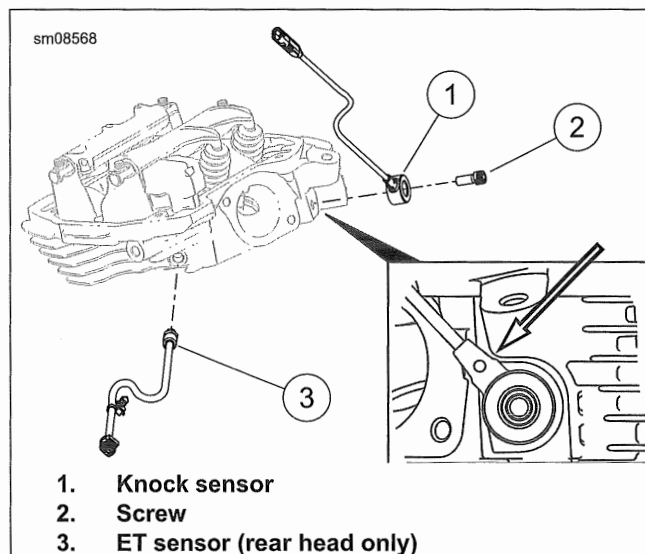

Figure 7-124. Cylinder Head Sensors
1. See Figure 7-124. Remove screw (2).
3. Remove sensor (1).
1. See Figure 7-124. Install sensor (1).